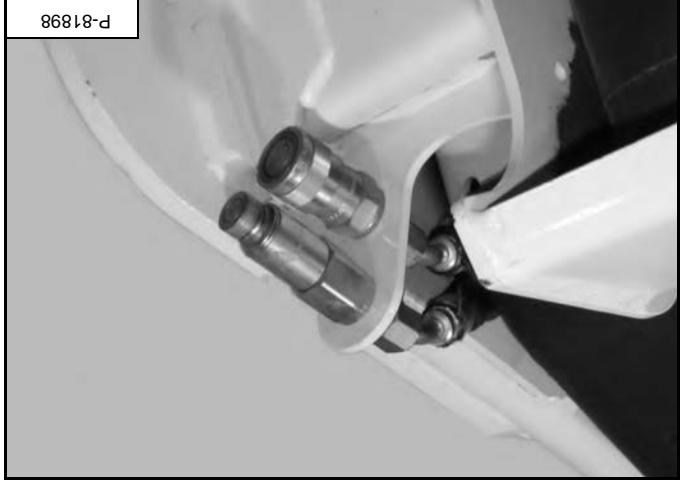

Figure 74
**[Figure 74].****To Connect:**